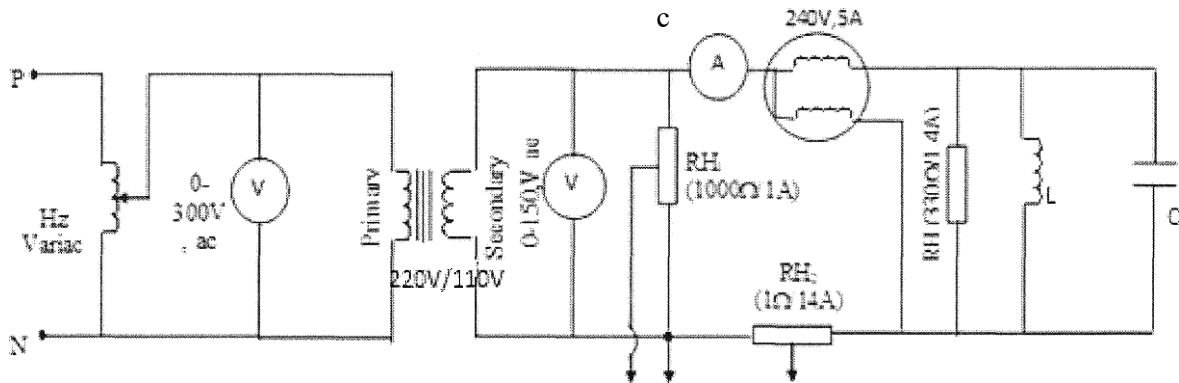

Figure 6: Circuit Diagram
1. Connect the circuit as shown in Figure 6
9. Connect the input, as in Figure 6, to the supply.